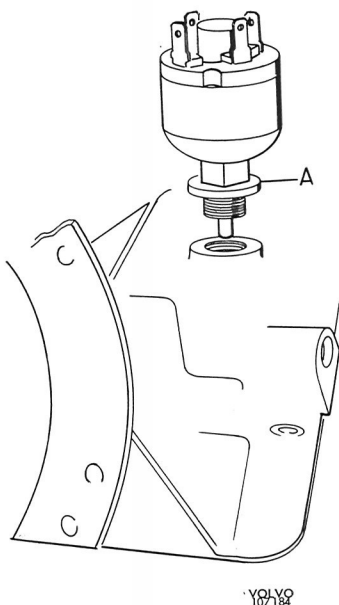

Fig. 4-81. Starter inhibitor installation
2. Install new gasket (A, Fig. 4-81) on the contact. Screw in the contact and tighten it to a torque of 8—11 Nm = 8—11 kgm = 6—8 lb.ft.) with the tool 2975. Connect the wires.